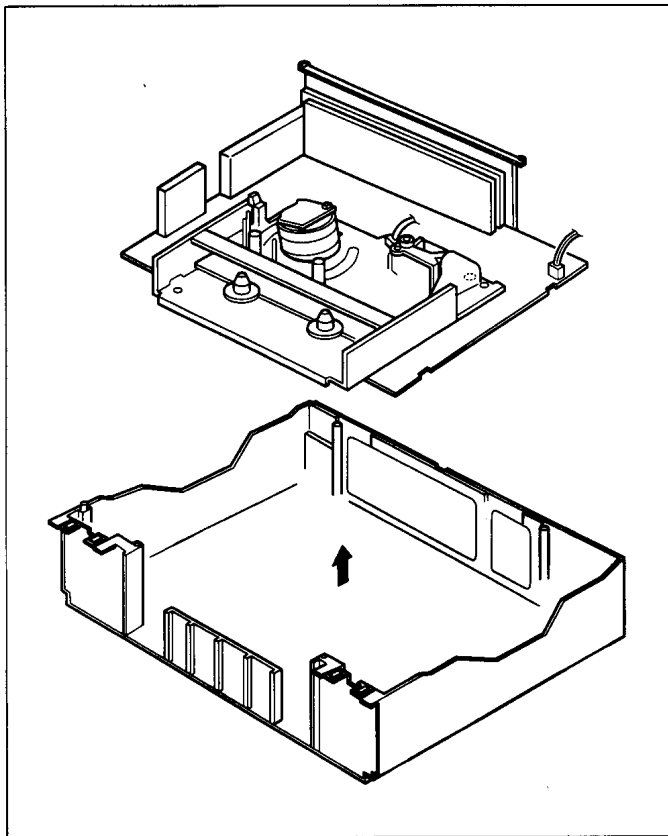

Fig. 1-4-2
- (6) Remove the Main board and Mechanism assemblies together while holding the edge of the Main board assembly. At this stage be careful of the power cord and prongs of the jacks on the back side. (See Fig. 1-4-2.)